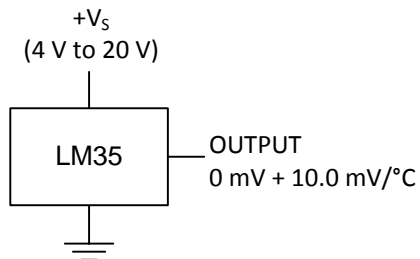

Figure 14. Basic Centigrade Temperature Sensor (2 °C to 150 °C)
Unless otherwise noted, these specifications apply:  $-55^{\circ}\text{C} \leq T_J \leq 150^{\circ}\text{C}$  for the LM35 and LM35A;  $-40^{\circ}\text{C} \leq T_J \leq 110^{\circ}\text{C}$  for the LM35C and LM35CA; and  $0^{\circ}\text{C} \leq T_J \leq 100^{\circ}\text{C}$  for the LM35D.  $V_S = 5\text{ Vdc}$  and  $I_{\text{LOAD}} = 50\ \mu\text{A}$ , in the circuit of Full-Range Centigrade Temperature Sensor. These specifications also apply from  $2^{\circ}\text{C}$  to  $T_{\text{MAX}}$  in the circuit of Figure 14.
(6) Quiescent current is defined in the circuit of Figure 14.